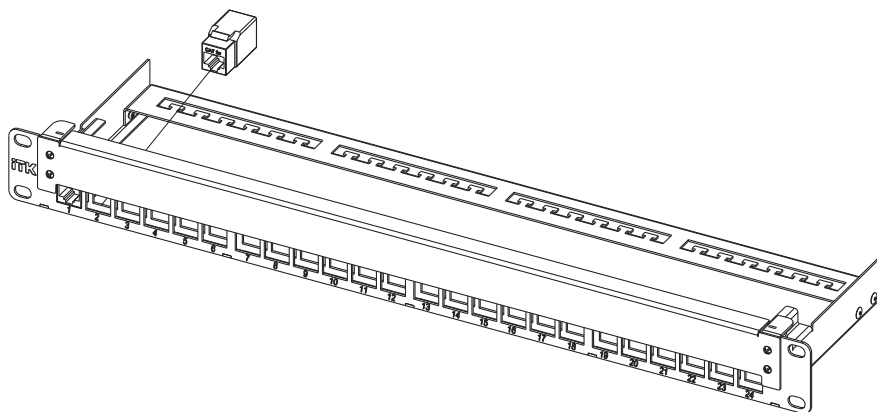

Рисунок 2 – Монтаж модуля Keystone Jack в патч-панель / Figure 2 – Mounting the Keystone Jack module in the patch panel
– install the fully assembled Keystone Jack modules into the patch panel until they click into place, as shown in figure 2;